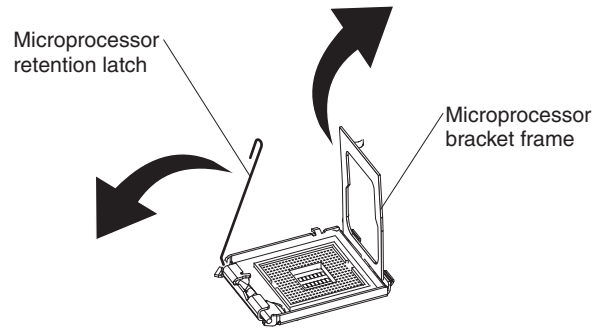

Figure 55. Microprocessor bracket frame
9. Release the microprocessor retention latch by pressing down on the end, moving it to the side, and slowly releasing it to the open (up) position (see Figure 55).
10. Open the microprocessor bracket frame by lifting up the tab on the top edge (see Figure 55).